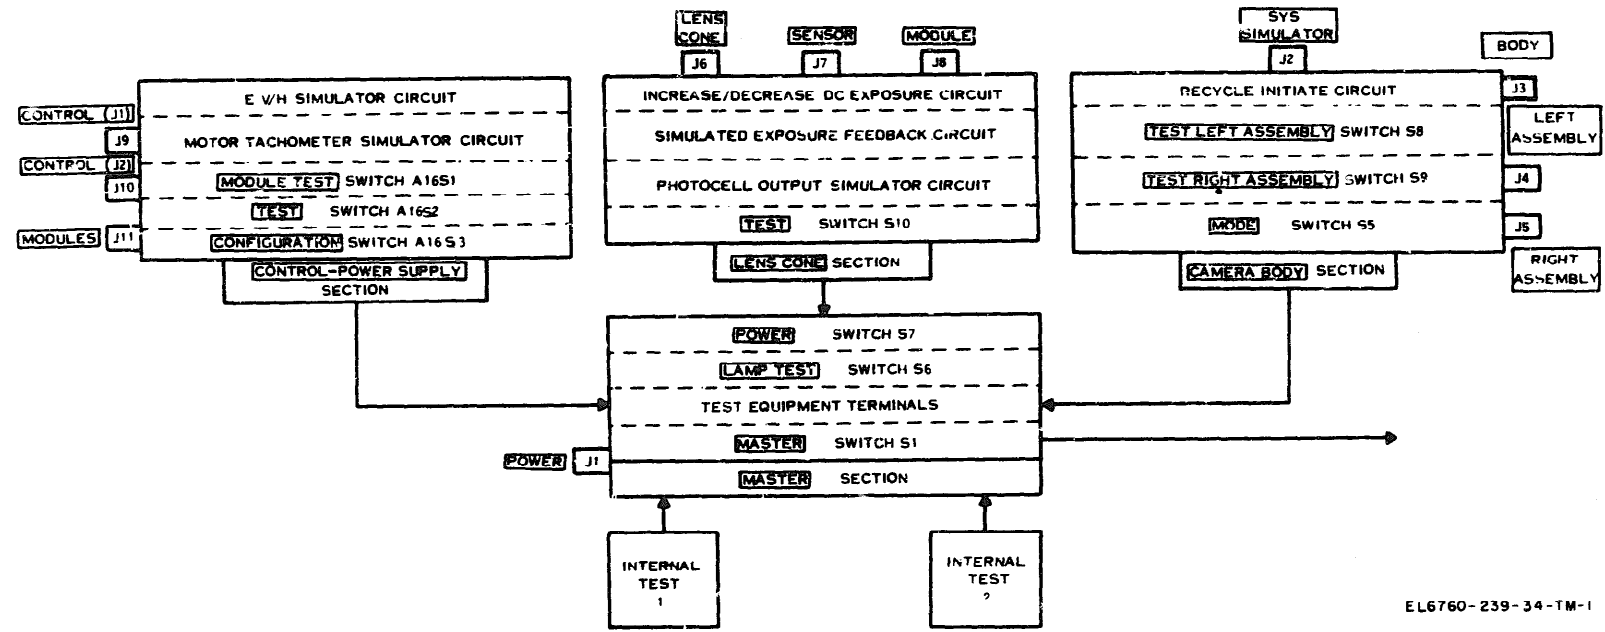

Figure 2-1. Camera analyzer, block diagram.
2-1. Camera Analyzer Functional Description (fig. 2-1)
a. The camera analyzer consists of three main test sections and a MASTER section. The three main test sections are: CONTROL-POWER SUPPLY section, LENS CONE section, and CAMERA BODY section. The camera test adapter is an accessory equipment to the camera analyzer and its functional description is covered in paragraph 2-2. Figure 2-1 illustration the functional relationship of the camera analyzer test sections and MASTER section.